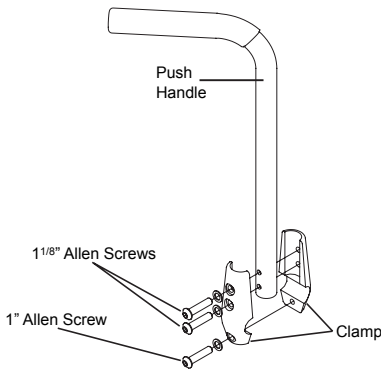

Figure 34
2. Assemble the two halves of the clamp around the rigidizer bar. See Figure 34.
1. Remove the three Allen Screws and remove the clamp and handle. See Figure 34.